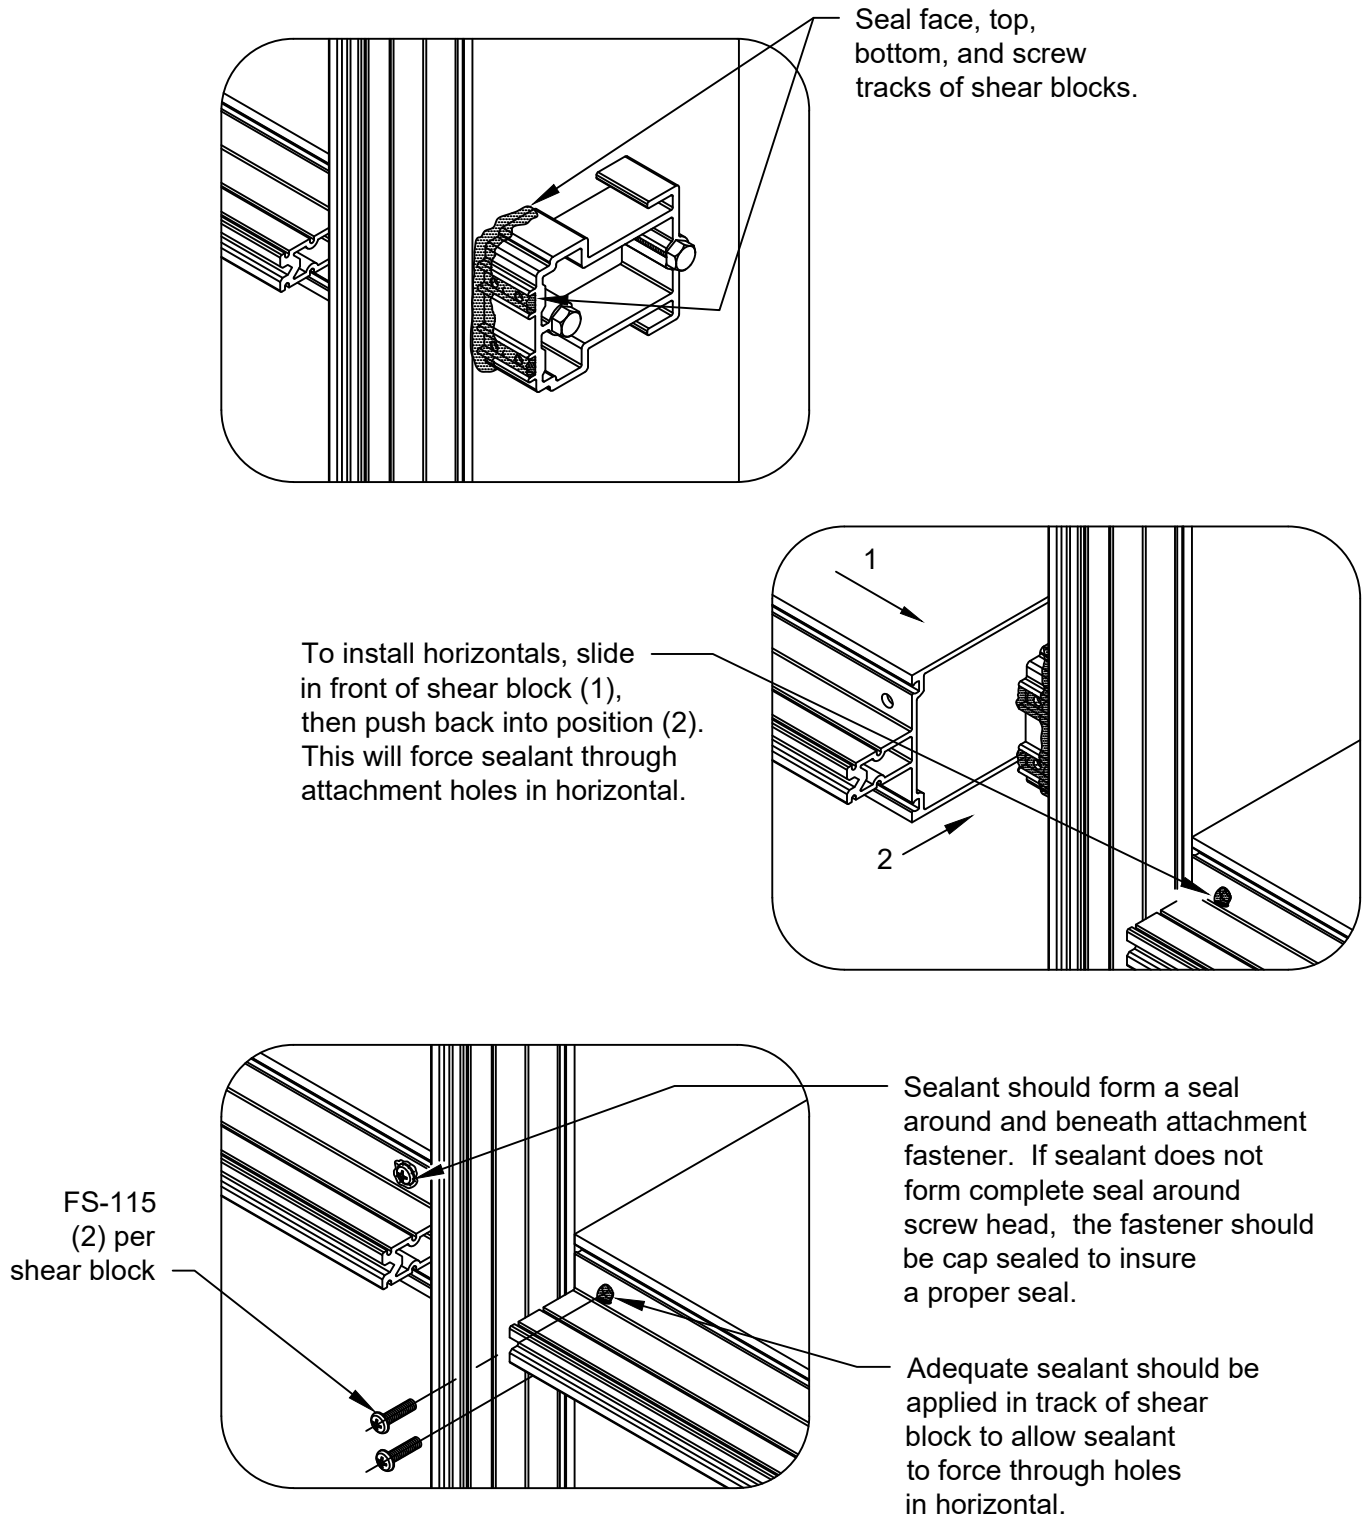

Figure 12
- 2.2 SEE FIGURE 12, page 18 as a guide for horizontal layout. Seal around shear blocks prior to installing each horizontal mullion. Install horizontal mullions as shown in FIGURE 12, PAGE 19. Prior to attaching screws, make sure sealant has been forced out of the holes in horizontal. If not, apply a liberal amount of sealant into each hole. Secure horizontals to shear block with two (2) FS-115 #10 x 1" Phillips Pan Head screw at each end of horizontal. Check head of screw to insure proper seal.